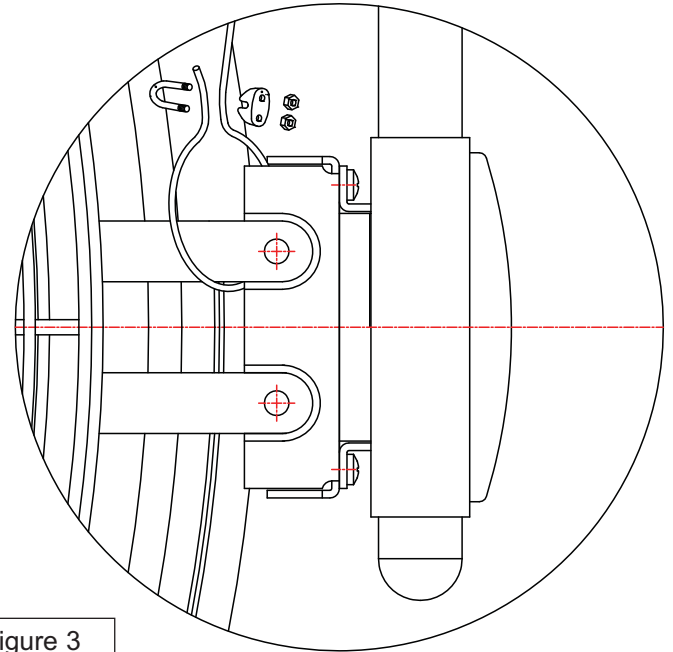

figure 3
2. Pull safety cable through and secure cable with safety cable U-bolt as shown in figure 3